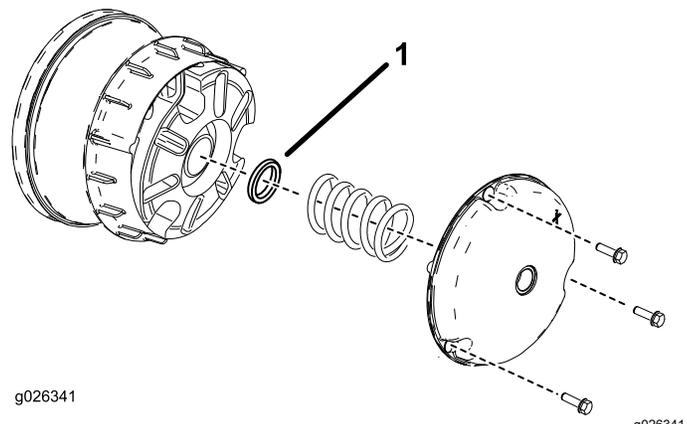

Figure 65
2. Remove the bolts securing the primary clutch cover as shown in Figure 65.